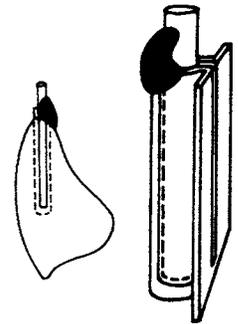

Fig. 6
5. Before investing the waxed crowns, the ceramic rod supplied with the attachment is inserted into the female. By taking the place of investment the ceramic rod insures that no air bubbles are trapped in the female, preserving its accuracy. A small amount of sticky wax should be used to secure the ceramic rod to the occlusal of the female (Fig. 6). This will maintain the position of the ceramic rod during investment procedures.